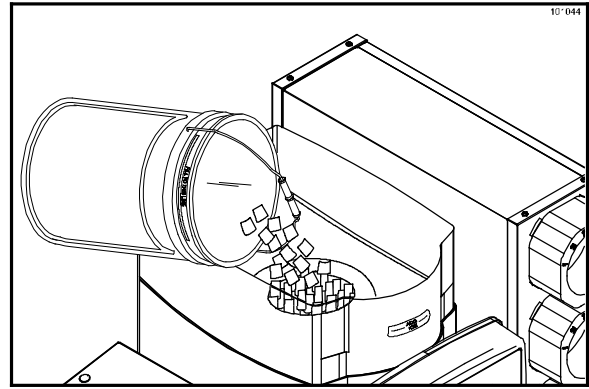

Figure 9
4. Pour the ice into the ice hopper. (See Figure 9.)